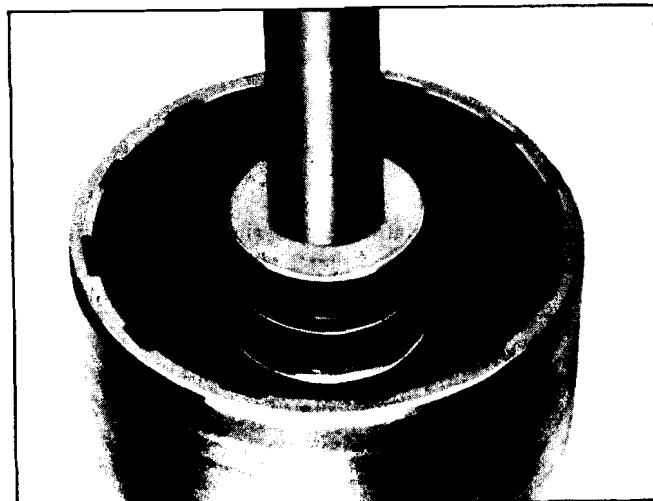

Fig. 7F-69 Removing Clutch Drum Bushing
- a. Remove old bushing, using Drive Handle J 8092 with Bushing Tool J 21424-5 (Fig. 7F-69). Avoid damaging bushing bore at machined front face of clutch drum.